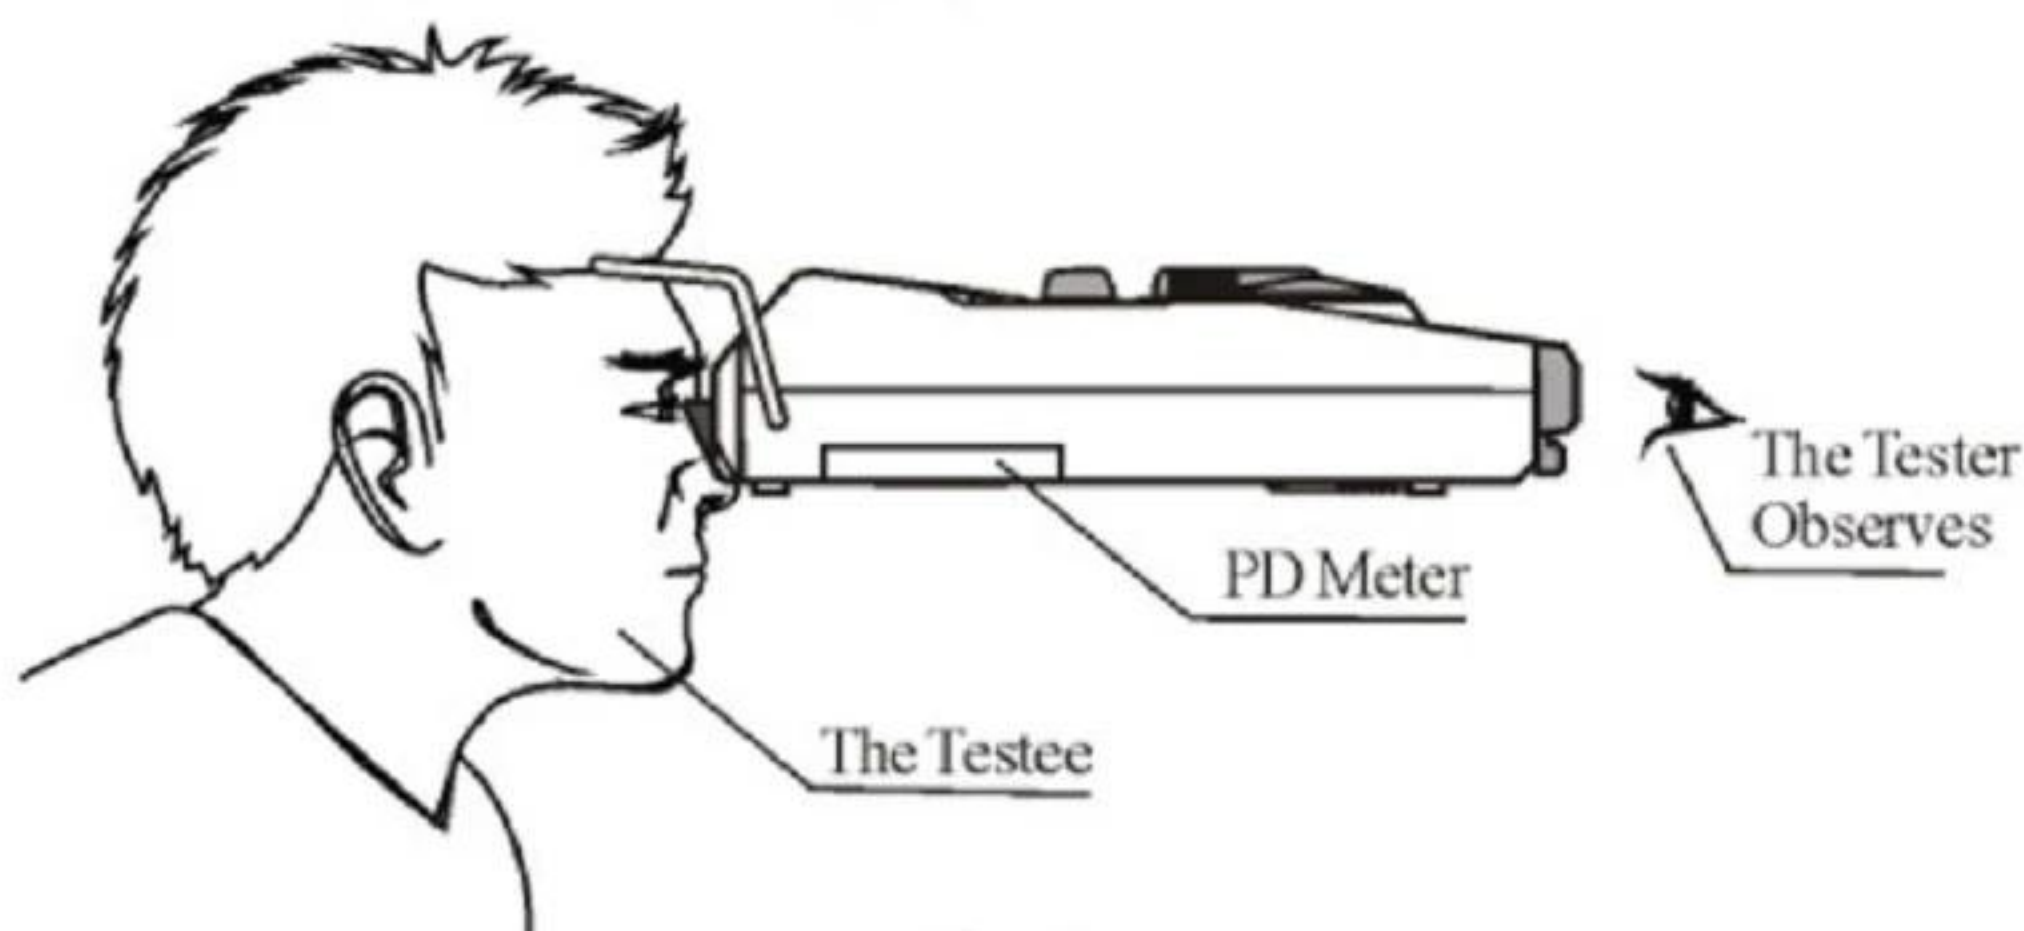

Fig.6
4.3.2 Put the forehead bearer lightly on the testees's forehead, and nose bearer lightly on testee's nose bridge, then keep the device in a horizontal state(as shown in Fig.6).